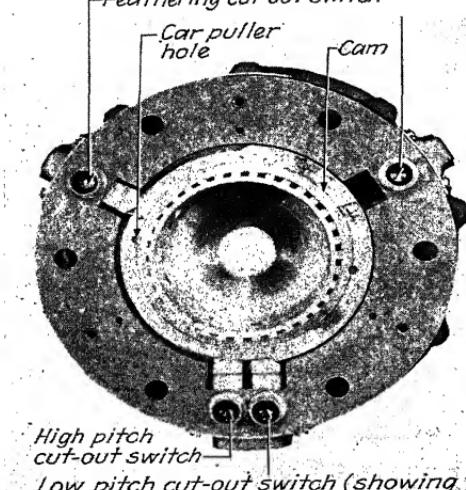

FIG. 50.—High- and low-limit cutout switches.
The limit cutout switches are located at the hub end of the speed reducer. They limit the high and low pitch for the flight range and also stop the pitch change at the feather position. The high- and low-pitch cutout switches are effective while operating on both constant speed and manual selective control (Fig. 50). The feather cutout switch is effective only during the feather
Check the alignment of index marks on the power gear and on the steel adapter plate. To align these marks it will be necessary (1) to remove the steel mechanical low-stop plug, which is held in place by two  $\frac{3}{16}$ -in. hexhead bolts just forward of the steel adapter plate. This must be done to eliminate the possibility of damaging the speed reducer when attempting to align the two index marks. (2) After the mechanical low-stop plug has been removed, the power gear may be rotated by introducing a 12-volt current into the pitch-change motor through the proper two contacts on the face of the adapter plate (Fig. 50).
1. Remove the power gear and adapter plate from the power unit and see that the low limit cutout switch is just riding on the low limit cam lobe (Fig. 50). If it is necessary to run the power unit to locate the cam properly, proceed as previously outlined. Then replace the power gear, having the master spline in line with the mark indicating the desired low-pitch angle.